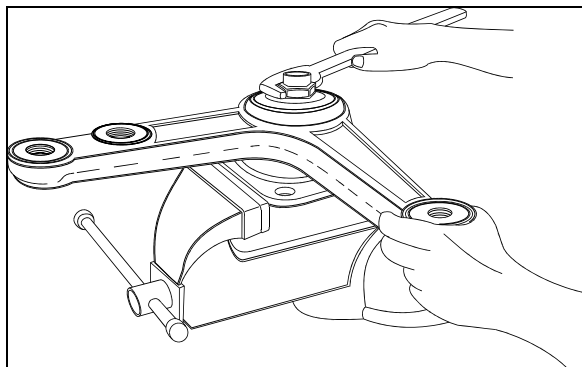

FIGURE 12: BELL CRANK
3. Install bell crank or idler arm onto its mounting spindle, while holding the bell crank or idler arm, slide on the bearing assembly, thrust washer and secure using nut. (Fig. 12).